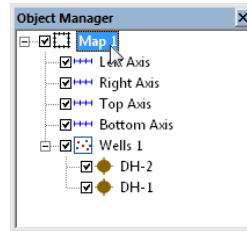

Figure 1.188 – Object Manager, selecting Map 1
1. Click on the *Map 1* object, fig. 1.188, in the **Object Manager**.